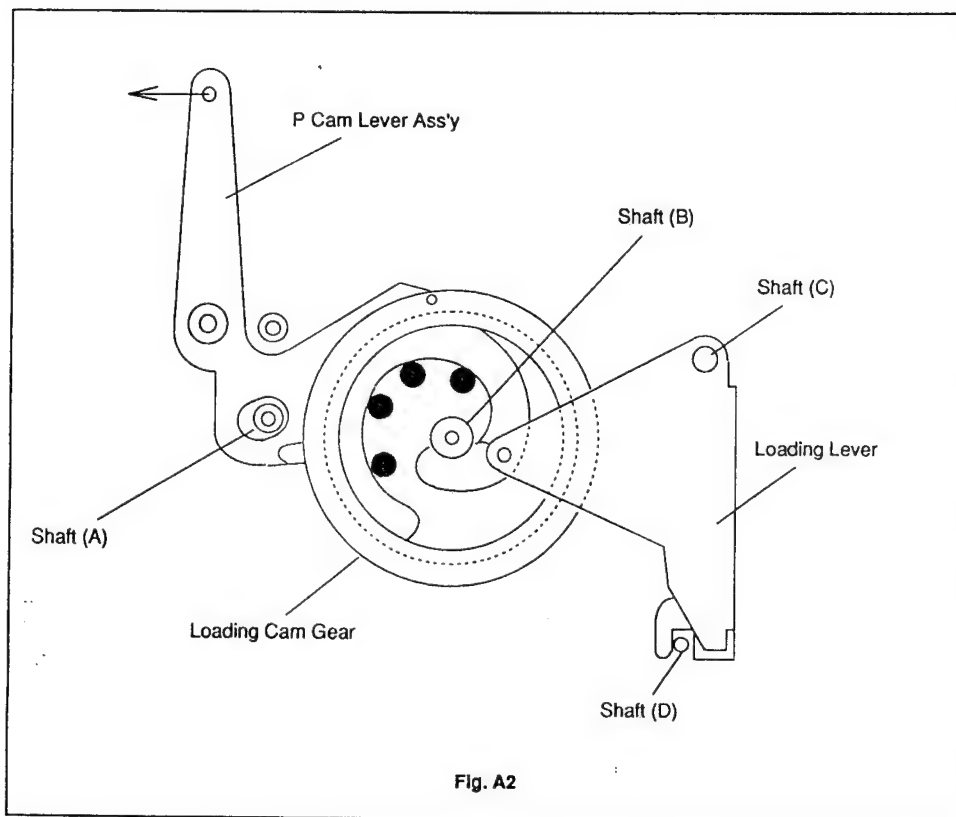

Fig. A2
- 2) Turn the Cam rising portion on Loading Cam Gear in the direction of Shaft (A), then install Loading Cam Gear onto Shaft (B).
- 3) Install Loading Lever onto Shafts (C) and (D), then turn Loading Cam Gear clockwise or counterclockwise so that the Roller on the Loading Lever aligns with the groove on Loading Cam as shown in Fig. A2.